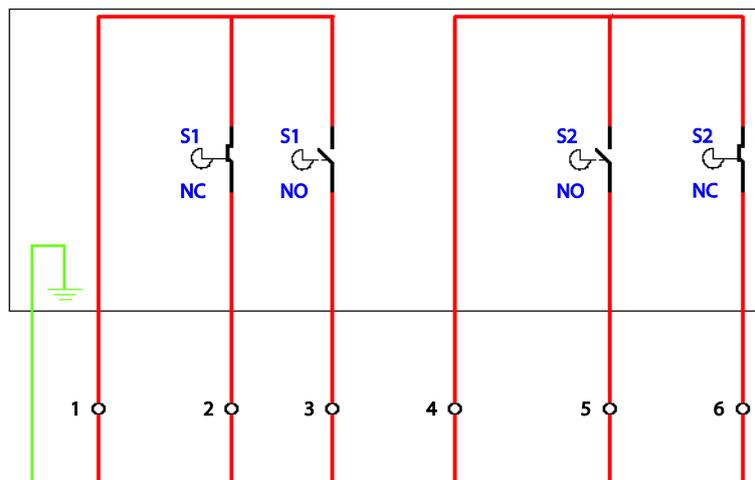

Figure 4.5.i End Switch Wiring Schematic
5. Wire the ESPU according to the Valve Proving the End Limit Switch will be required to provide. See the End Limit Switch wiring diagram in Figure 4.5.i
End Limit Switches are mounted on the end of bespoke valves (please contact Autoflame regarding bespoke valve manufacture) which are attached to the air and fuel valve and commissioned depending on the use of the End Limit Switches. An End Limit Switch comprises of two switches, as shown in Figure 4.5.i. Each comprises of an Earth and 6 connections to be wired as appropriate. The switches S1 and S2 are setup as per on site specification. These are then wired into either or both of the terminals 80, the start position interlock, and terminal 81 purge position interlock.